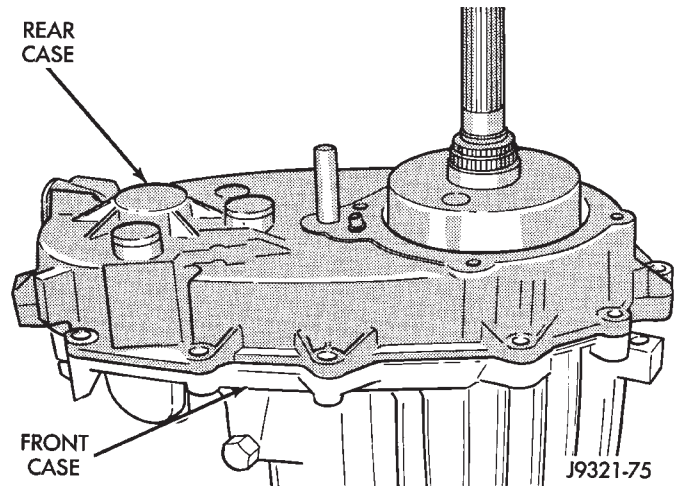

Fig. 86 Rear Case Installation
(5) Align and install rear case on front case (Fig. 86).